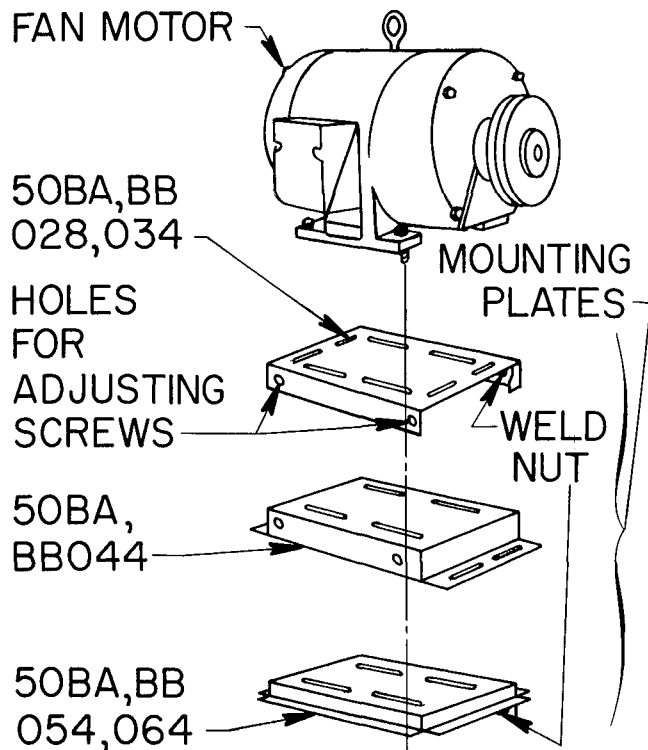

Fig. 9 — Motor Mounting
- Position motor on motor plate (Fig. 9) and fasten with fasteners provided.